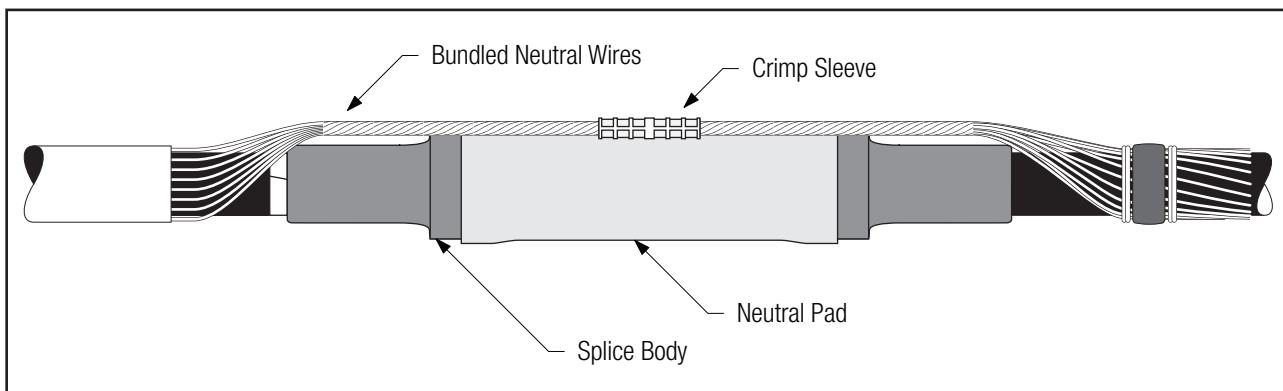

Figure 38
10.1.1 Center neutral pad on splice body. Remove temporary vinyl tape from neutral wires and connect with an inline compression connector (crimp sleeve). Route neutrals and connector over the neutral pad (*Figure 38*).